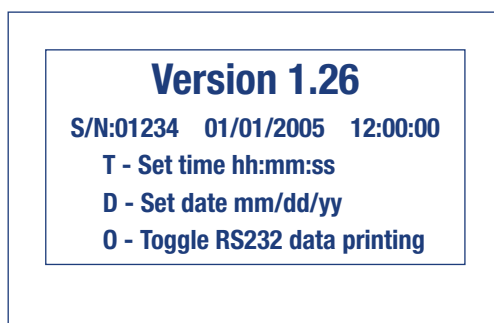

Figure 8 Setup Screen for the PMA2200 Meter
- 4 Press **Enter** to get a menu from the PMA2200. (Figure 8)